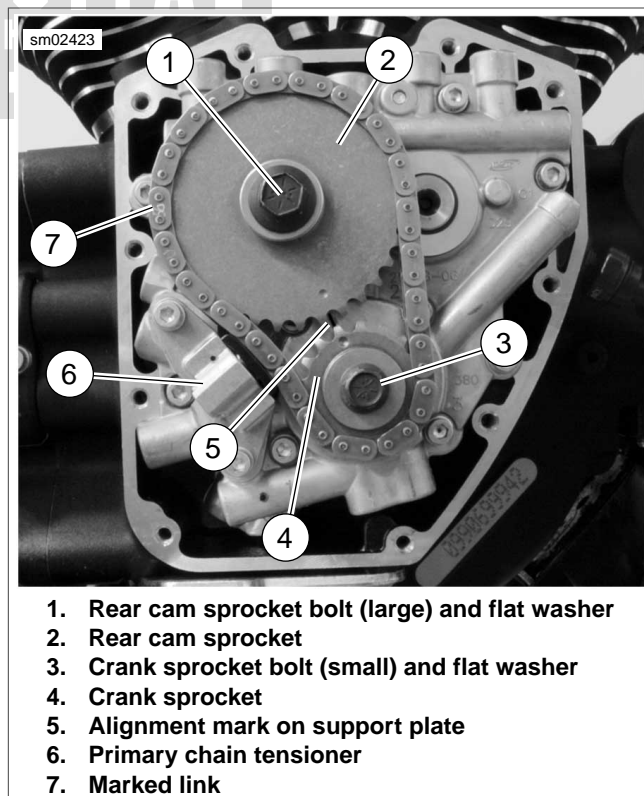

Figure 3-65. Primary Chain and Sprockets
9. See Figure 3-65. Apply a light amount of clean H-D 20W50 oil to splines on rear cam. Install the primary cam chain and sprocket assembly.
- a. Place the rear cam sprocket (2) in the primary chain. Hold the sprocket allowing the chain to hang loose. Rotate the sprocket so that the timing mark on the sprocket root faces straight downward.
17. See Figure 3-65. Install the cam cover using ten allen head socket screws (1/4 x 1-1/4 in.). Following the sequence shown, alternately tighten the screws to 125-155 **in-lbs** (14.1-17.5 Nm). If cam cover assembly was completely removed continue as follows.